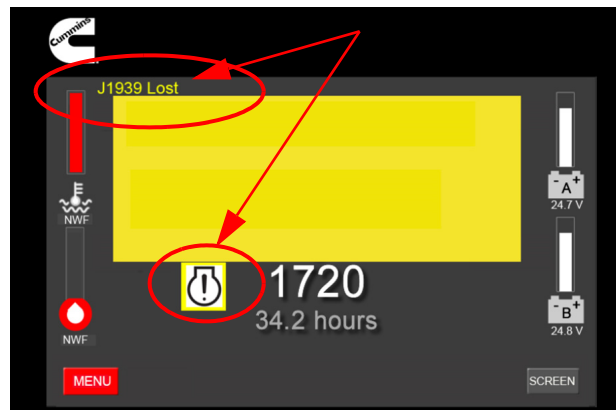

Figure 2-7 Loss of J1939 communications
- **Communications have been lost with the ECM.** The FPDP communicates with electronically-controlled engines via J1939. As shown in Figure 2-7, if communications are lost, "J1939 Lost" will appear on the top left of the screen. The warning lamp will also illuminate and the text "NWF" (which stands for "Network Failure") will replace all digital J1939 values, except the tachometer, which will revert to using a mechanical speed sensor for engine speed detection.